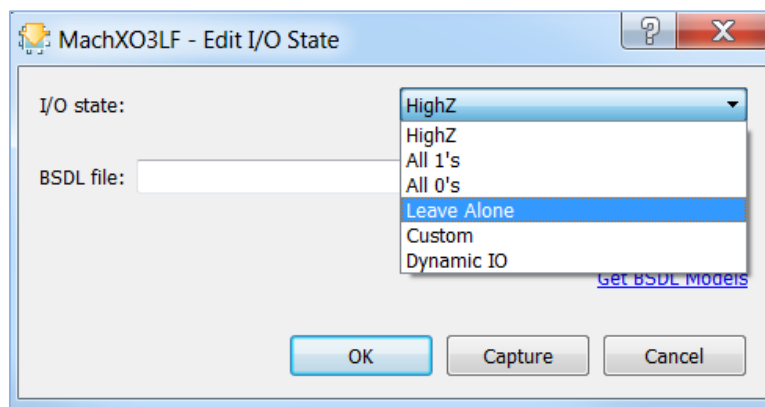

Figure 7.13. Edit I/O State Dialog Box
2. In the **Edit I/O State** dialog box, from the I/O state drop-down list select **Leave Alone** as shown in Figure 7.13. Click **OK** to confirm this selection.